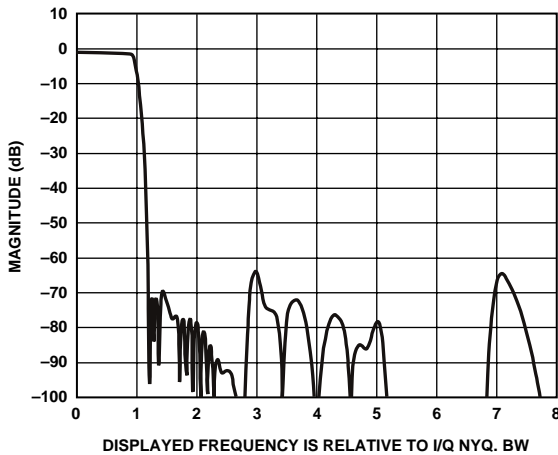
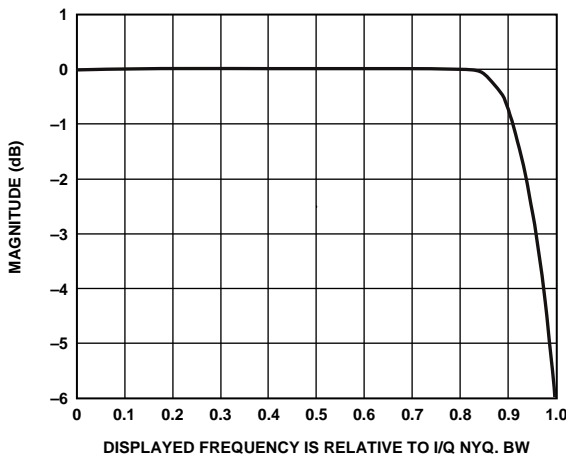

Figure 33. Half-Band 1, 2, and 3 Frequency Response
Figure 34. Pass-Band Detail: Combined Frequency Response of HBF 1 to 3
In applications requiring both a low data rate and a high output sample rate, a third HBF is available (HBF 3). Selecting HBF 3 offers an upsampling ratio of eight (8) instead of four (4). The combined frequency response of HBF 1, 2, and 3 is shown in Figure 33 and Figure 34. Comparing the pass-band detail of HBF 1 and 2 with the pass-band detail of HBF 1, 2, and 3, HBF 3 has virtually no impact on frequency response from 0 to 1 (where 1 corresponds to  $f_{\text{NYQ}}$ ).